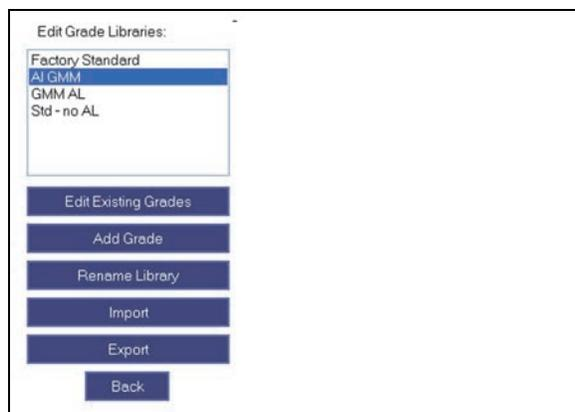

Figure 2-17 The Edit Grade Libraries pane
1. From the **Edit Grade Libraries** pane, click **Export** (see Figure 2-17 on page 59).